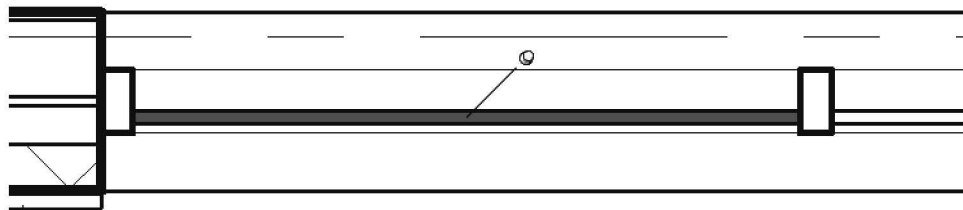

FIGURE 15-2.8 Select the Curtain Panel
19. Hover over the **curtain panel**, the glass, and tap the *Tab* key until it highlights; **click** to select it (Figure 15-2.8).